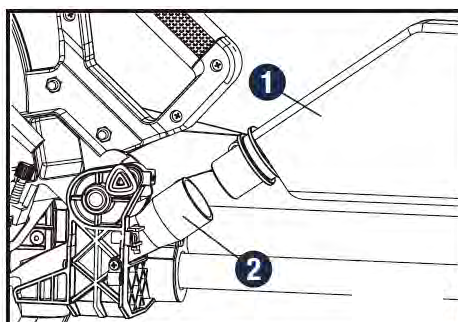

Fig. 9: Connecting the dust bag
Place the dust bag (1) onto the miter saw's dust extraction nozzle (2). Assemble the connecting tube of the dust bag and the dust extraction nozzle (Fig. 9).